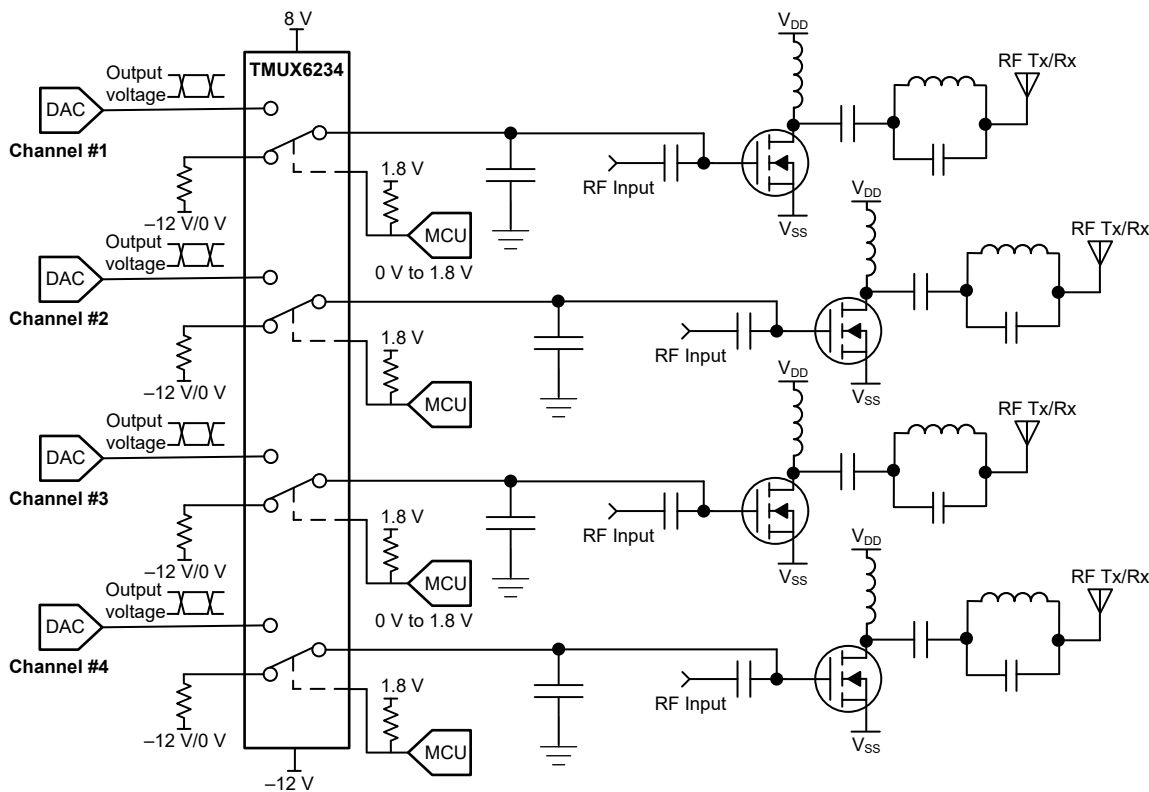

图 9-1. Power Amplifier Gate Driver
图 9-1 shows the TMUX6234 configured for control of a multi-channel power amplifier application.
The application shown in 图 9-1 demonstrates how to toggle between the DAC output and a low signal voltage for control of a power amplifier. A device such as the TMUX6234 that supports multiple supply voltage combinations allows the system designer to use a single switch across platforms with different power amplifier topologies such as GaN or LDMOS implementations. Using a multi-channel switch like the TMUX6234 allows the system to improve density by implementing a smaller solution size. Multiple channels of the TMUX6234 can be utilized to switch additional stages of a single power amplifier channel. Or multiple channel switches can be used on different power amplifier stages in high channel count communications equipment such as a 32 transmit (TX), 32 receive (RX) active antenna system mMIMO (AAS). Each channel of the TMUX6234 has independent control signals allowing for overall system flexibility. The DAC output is utilized to bias the gate of the power amplifier and can be disconnected from the circuit using the select pins of the switch or the global enable pin. The TMUX6234 can support 1.8 V logic signals on the control input, allowing the device to interface with low logic controls of an FPGA or MCU. All inputs to the switch must fall within the recommended operating conditions of the TMUX6234 including signal range and continuous current. For this design with a positive supply of 8 V on V_{DD} , and negative supply of -12 V on V_{SS} , the signal range can be 8 V to -12 V. The maximum continuous current (I_{DC}) is captured in the *Recommended Operating Conditions* table for a range of supply voltage cases.